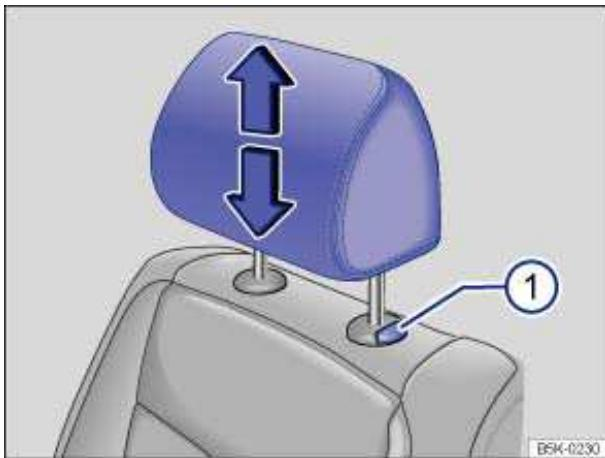

Fig. 34 Adjusting the head restraints.
- Push the head restraint up in the direction of the arrow or down when the button ⇒ fig. 34 (1) is pressed ⇒ ⚠.